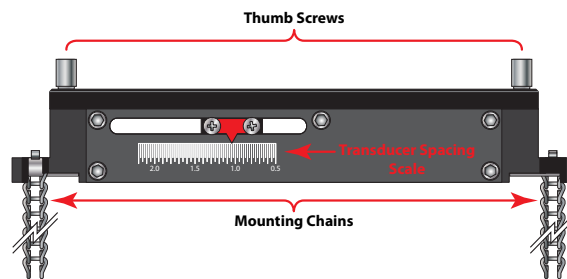

Figure 28: Transducer spacing scale for DTTSU transducers
1. Determine the transducer spacing required using the flow meter and the scale on the side of the DTTSU transducers, set the spacing. See *Figure 28*.